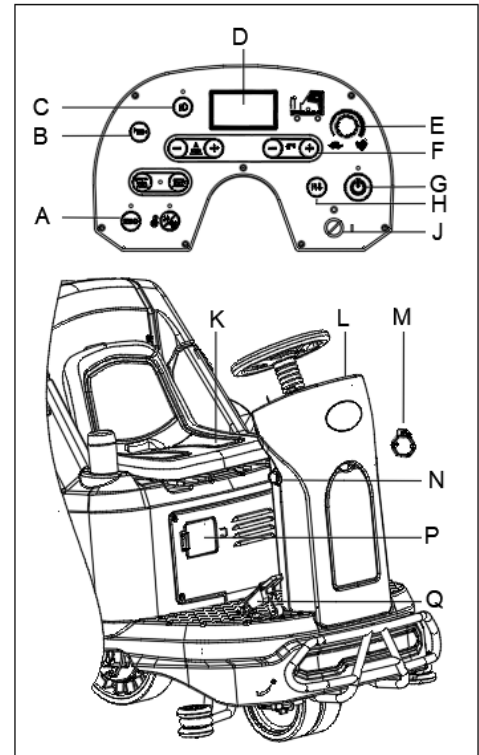

Figure 13
2. Sit on the seat (K Figure13), insert the Ignition key (J Figure13) and turn it to “I”. Check batteries status from display screen. If necessary to charge the batteries (see the procedure in Maintenance chapter).
The forward/reverse direction can be controlled with the switch (H Figure13). The speed can be adjusted with the adjuster (E Figure13).
4. Press One-Start button (G, Figure13) to start the machine, the squeegee and brushes are lowered to the floor automatically, and the vacuum motor begins to work.
5. Press the solution flow control buttons (F, Figure13) as necessary, depending on the type of cleaning to be performed.
6. Depress the accelerator pedal (Q Figure13), and start cleaning.
7. You can charge your phone or pad through USB charging port (M Figure13) when the Ignition key (J Figure13) is turned to “I”.
8. Press the horn button (B Figure13) to warn people when necessary.
9. If necessary, press the emergency button (N Figure13) for machine emergency stop.
10. If necessary, press the front lights button (C Figure13) for dark areas or to warn pedestrians.
11. If necessary, adjust the seat (K Figure13) by turning right the handle on the right of seat, then slide the seat to proper position.
The brush motor, vacuum motor, drive motor and control circuit are protected by overload protector (P Figure13). When an overload protector trips, do not reset it immediately without finding out the root cause, and make sure the motor has cooled before reset.
12. Release the accelerator pedal (Q Figure13), the machine stops running.
13. Press One-Start button (G Figure13) to stop brushes and vacuum motor. The brushes and squeegee are lifted from the floor automatically. The vacuum system will turn off after a few seconds.